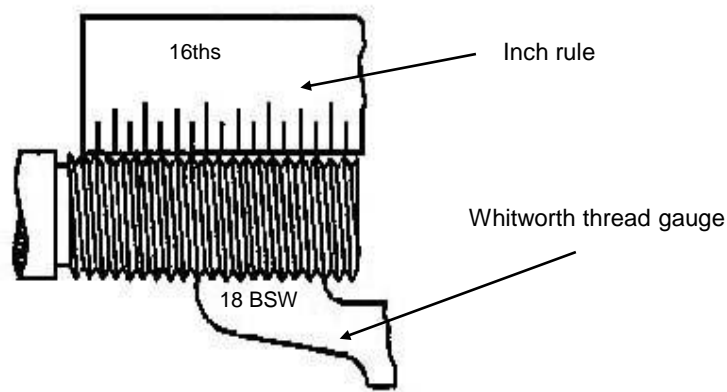

FIG 6.
- B. Measure the pitch (TPI) with a Whitworth thread pitch gauge or a rule. (Fig 6)